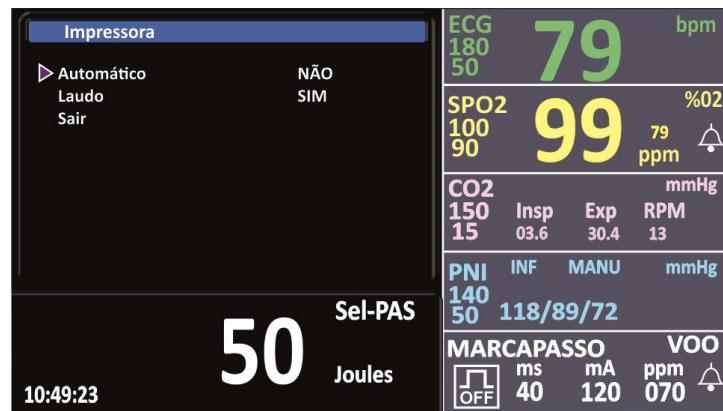

Figure 39 - Printer Menu
- 6 - Adjust the printing paper again so that it is centered with the printer as shown in figure 39;